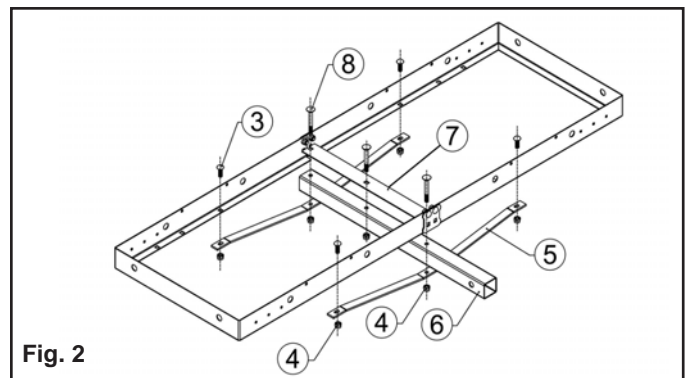

Fig. 2
3. **Figure 2:** Place the tie plate (part# 7) in the middle of the top of the frame, aligning the holes on each end with the holes in the frame.
4. **Figure 2:** Add the 2" draw bar (part# 6) directly beneath the tie plate, under the frame. **Note: The three (3) holes in the top of the draw bar must be aligned with the three (3) holes in the tie plate.**
5. **Figure 2:** Thread an M10x75 carriage bolt (part 8) through the center hole of the tie plate, through the middle hole of the draw bar, and hold it loosely in place with an M10 lock nut. Place the other two (2) M10x75 carriage bolts through the holes at each end of the tie plate, *but do not secure them with lock nuts until the next step.*
6. **Figure 2:** Place the support bridges (part# 5) under the draw bar, aligning their center holes with the M10x75 carriage bolts on each end of the tie plate, and hold the support bridges loosely in place with M10 lock nuts. Each end of the bridge supports will then be mounted to the edge of the frame using four (4) M10x20 carriage bolts (part# 3) and M10 lock nuts.